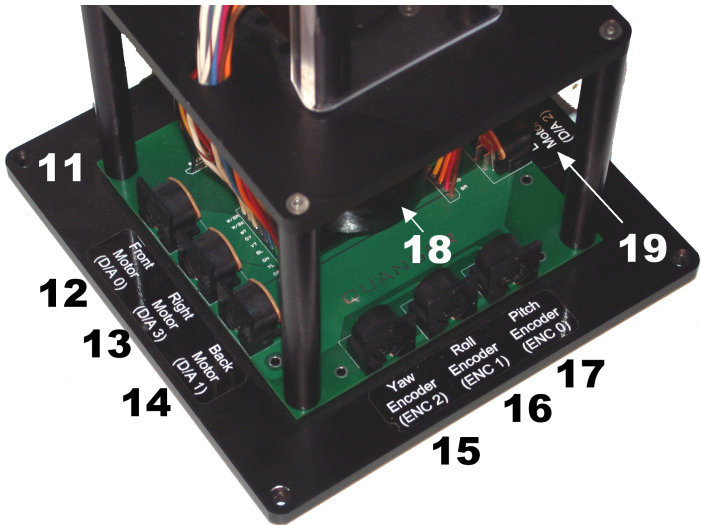
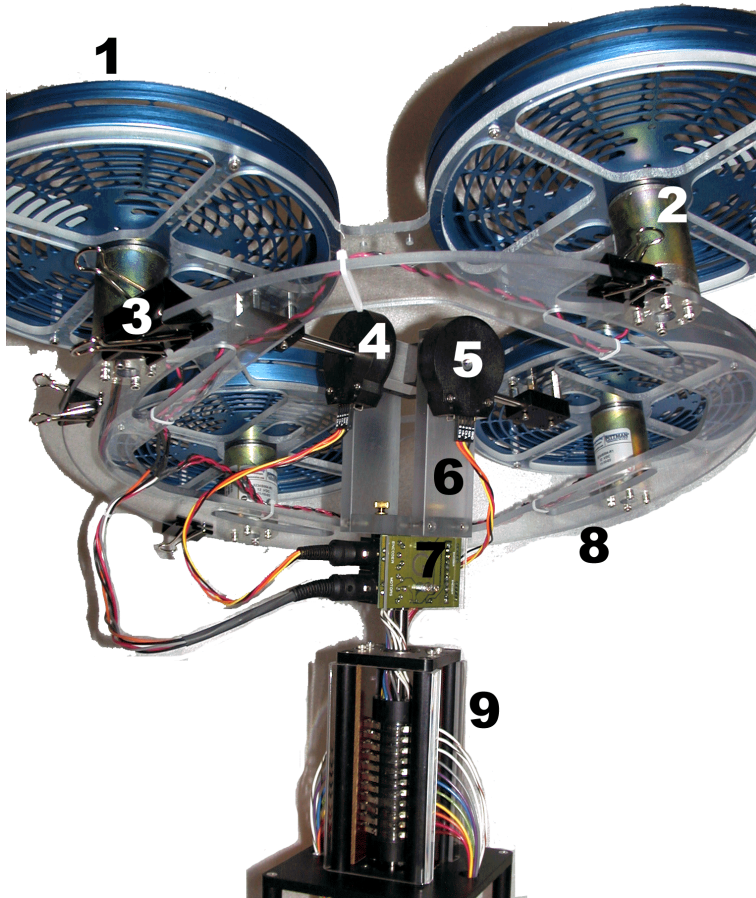
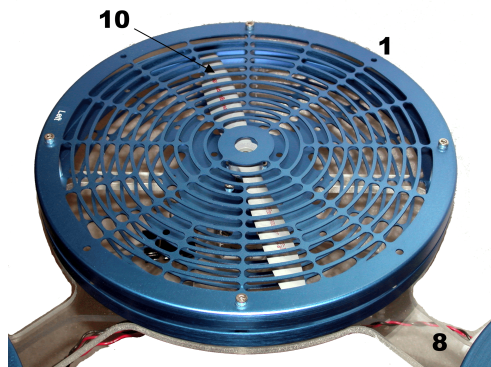

Figure 2.1: Quanser 3 DOF Hover base components
Figure 2.2: Quanser 3 DOF Hover plant components
Figure 2.3: Quanser 3 DOF Hover propeller assembly components
The components comprising the Quanser 3 DOF Hoversystem are labeled in Figure 2.1, Figure 2.2, and Figure 2.3, are described in Table 2.1. The motors, propeller assemblies, and encoders are described in more detail below.
1. Place the base of the 3 DOF Hover, Component # 11 shown in Figure 2.1, on a table or on the floor.
2. Assemble the body to the main base by aligning the pitch/roll encoder frame, i.e., the yoke shown in Figure 2.2 as Component #6, with the top of the base and tighten the thumb screws.
3. Connect the flat 5-pin connector from the pitch encoder (Component #5 in Figure 2.2), i.e., the encoder that is labeled *Pitch*, to the 5-pin connector on the Encoder/Motor Circuit, Component #7 in Figure 2.2. Align the GND pin #1 on the cable to the BR pin on the Encoder/Motor circuit.
4. Connect the flat 5-pin to 5-pin-stereo-DIN cable from the roll encoder (Component #4 in Figure 2.2) to the 5-pin-stereo-DIN connector on the Encoder/Motor circuit board that is labeled *ENCODER*.
5. Connect the flat 5-pin-stereo-DIN to 5-pin-stereo-DIN cable from the four motors (Component #2 in Figure 2.2) to the 5-pin-stereo-DIN connector on the Encoder/Motor circuit board that is labeled *MOTORS*.
1. Using the supplied with weight clips, Component #3 in Figure 2.2, move the clips around the edge of the circular frame until the frame is balanced, i.e., parallel with the floor.